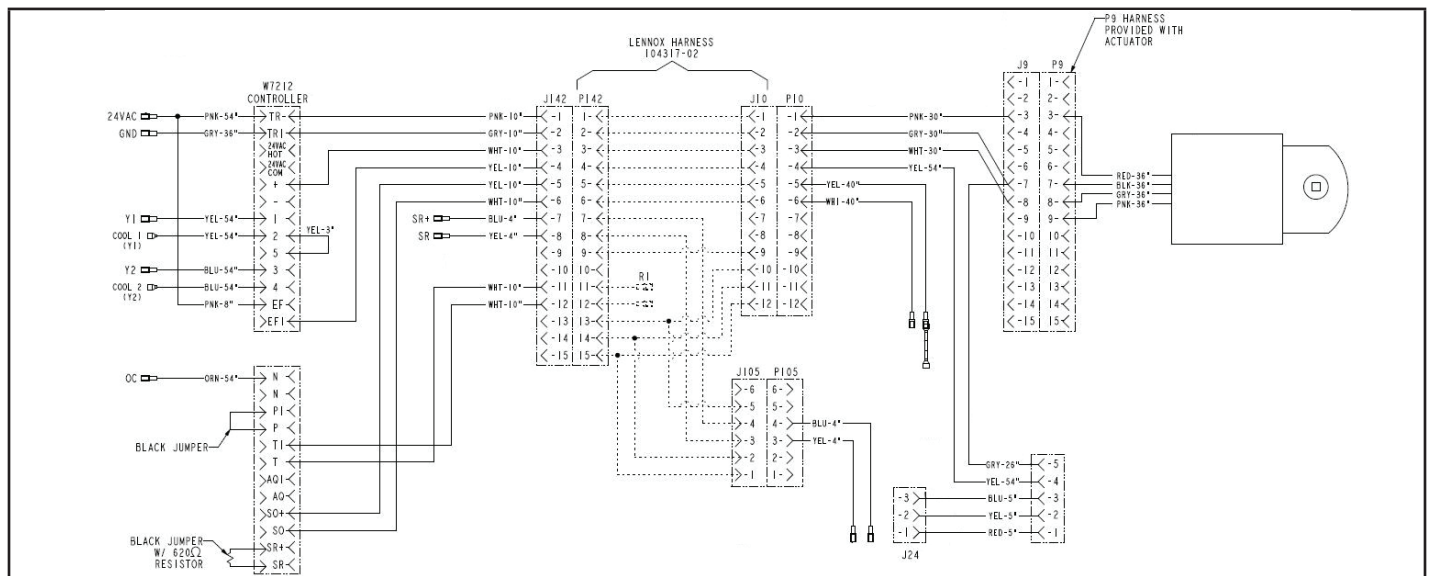

FIGURE 25
- 4 - Connect any optional sensors as shown in FIGURE 25.
- 5 - If optional power exhaust is used, wire according to instructions provided with power exhaust. See FIGURE 25.